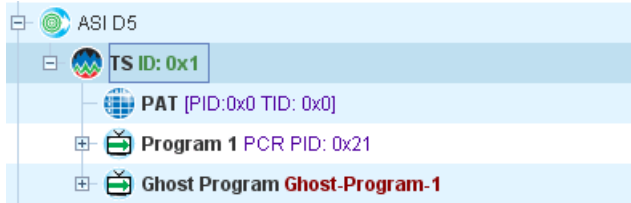

Figure 167. New Program Stream
4. Enter the **Ghost Program Name**. Click **OK**. A new program stream appears (Figure 167).